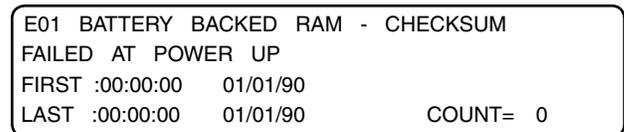

Figure 35-3
4. Press the Diagnostics button , , and  to display the E01 Error Log screen. See figure 35-3.